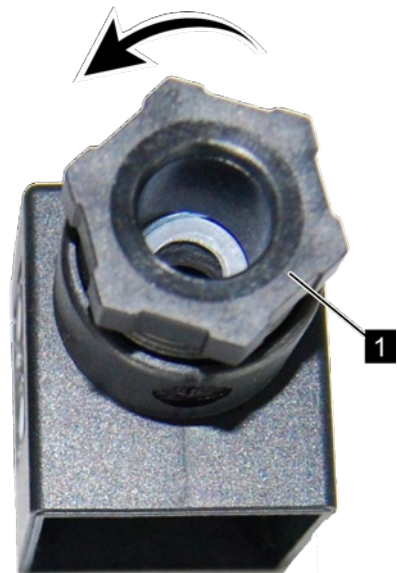

Fig. 23: Disconnect the screw connection
4. ➤ Unscrew the screw connection (Fig. 23/1) by turning in the direction of the arrow.
8. ➤ Retighten the screw connection (Fig. 23/1) by turning it to the right.